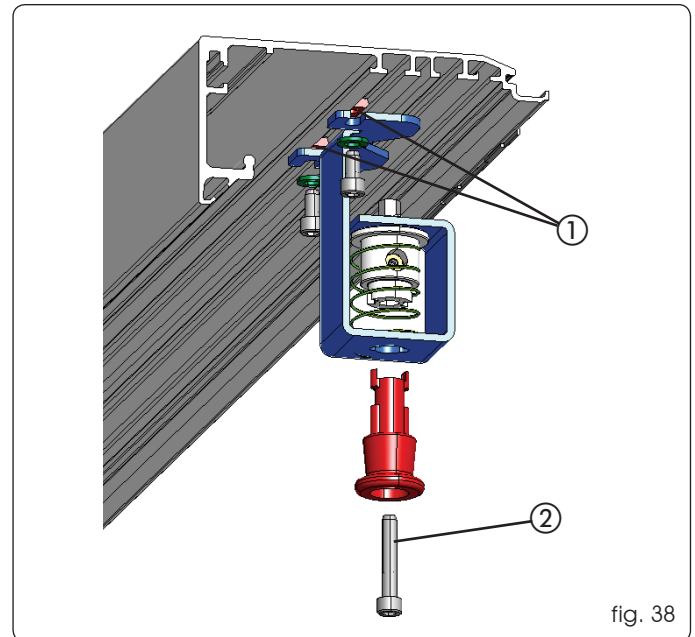

fig. 38
- Assemble the release knob on the side bracket, as shown in Fig. 38, after inserting two plates in the profile (Fig.38 ref. ①)
**if the release knob is present, to open the housing, dismantle the knob, unfastening the screw in fig.38 ref. ②**